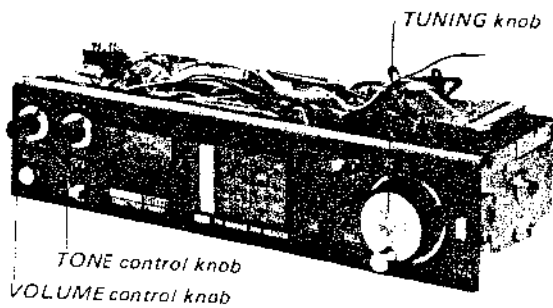

Fig. 2-4
3. Pull out the VOLUME control knob, the TONE control knob, and the TUNING knob shown in Fig. 2-4.